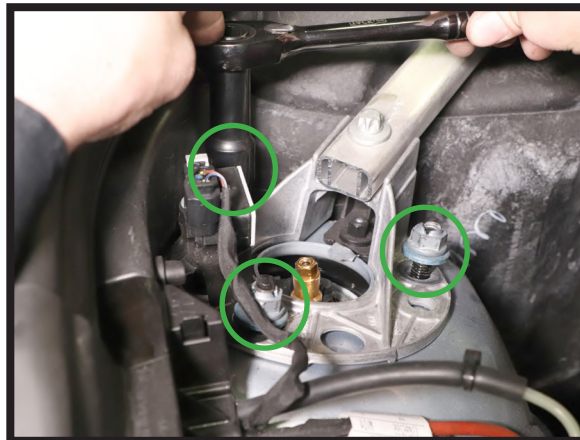

FIGURE 18
2. INSTALL THE THREE (3) TOP STRUT MOUNT NUTS. TIGHTEN TO MANUFACTURER'S SPECIFICATIONS. (FIGURE 18)